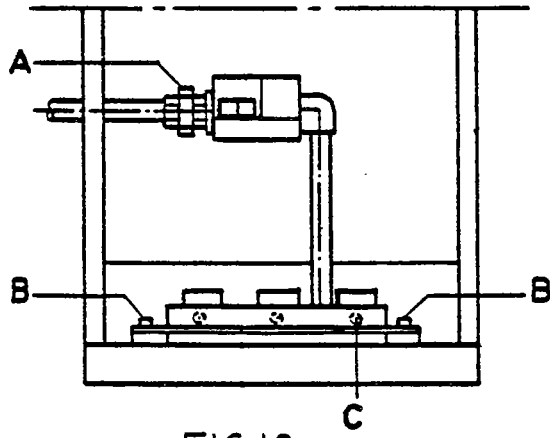

FIG. 12
2. Release the coupling A (fig. 12) between the gas supply line and the gas fitting.
3. Release the fixing screws B (fig. 12) of the distribution (manifold) tube and remove the gas fitting complete with burner.
5. Replace the injector nozzles C (fig. 12) in the distribution (manifold) tube.